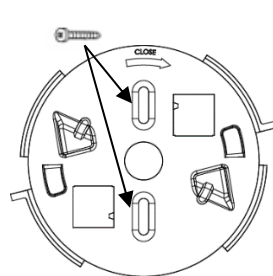

Figure 8
3. Using the mounting holes as a template secure the mounting bracket to the mounting surface (see Figure 8).